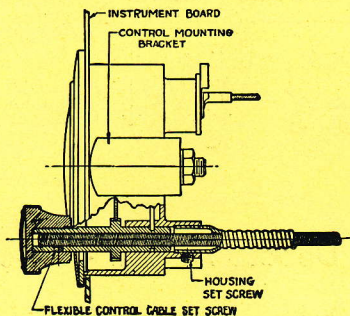

FIGURE 4
(See Figure 4)
2. Fasten the control head in place by means of the "U" clamp and nuts. (See Figure 4).